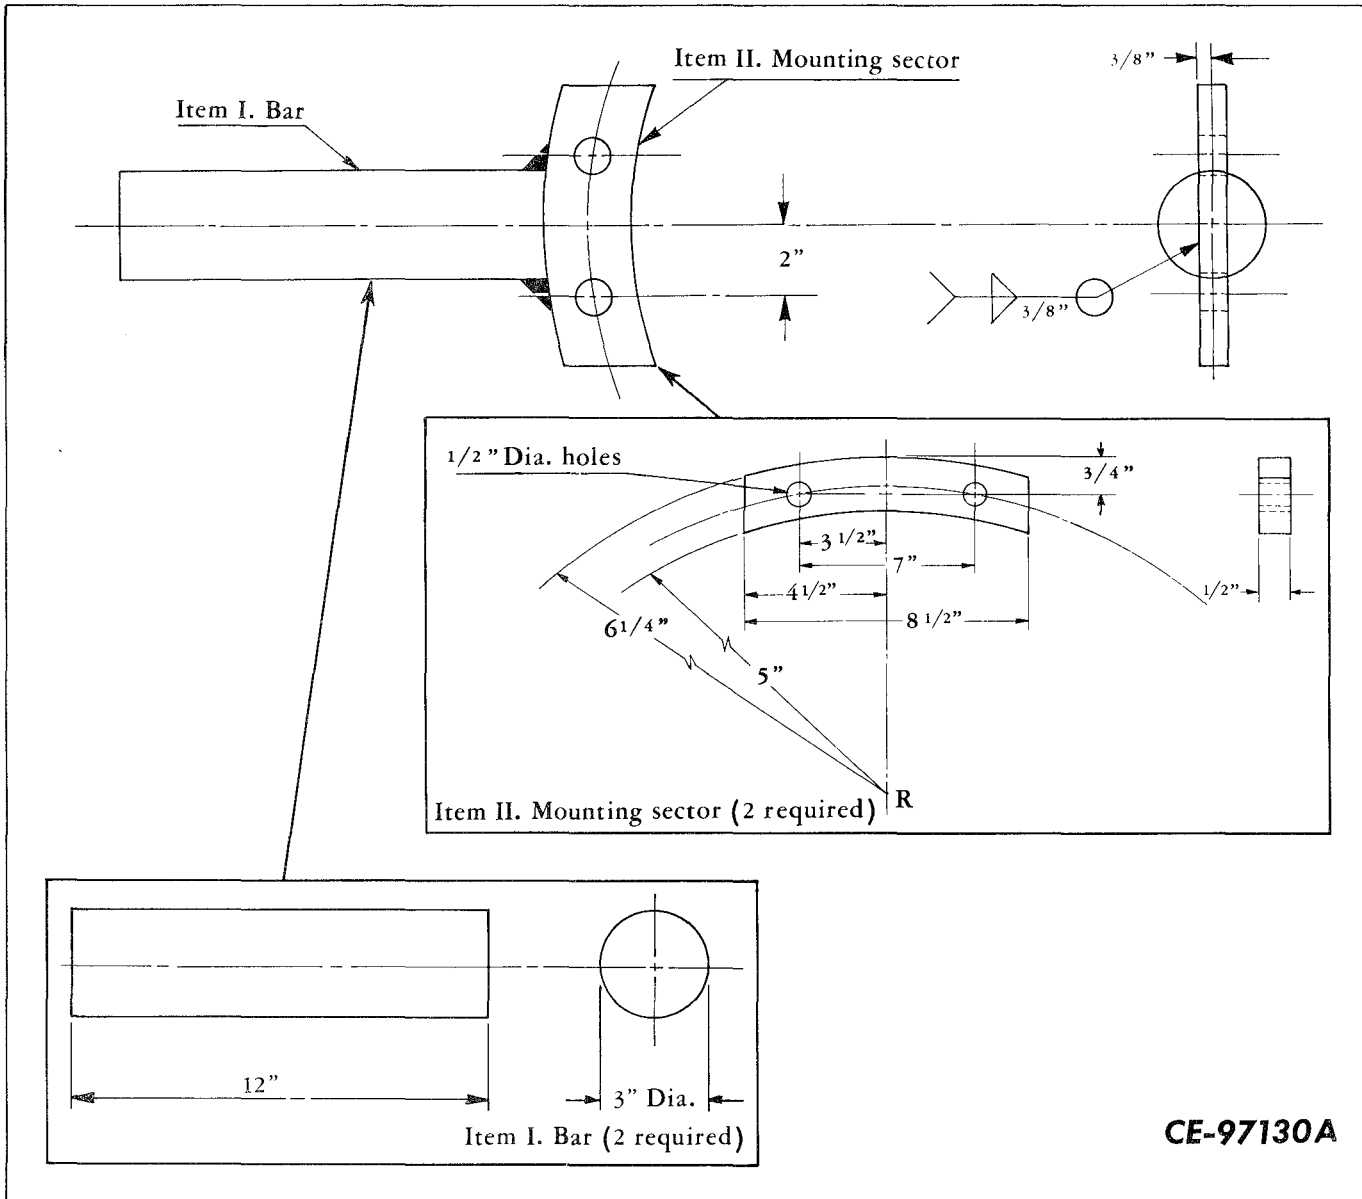

Figure 6-14
- A. Swivel weldment (Fig. 6-14).